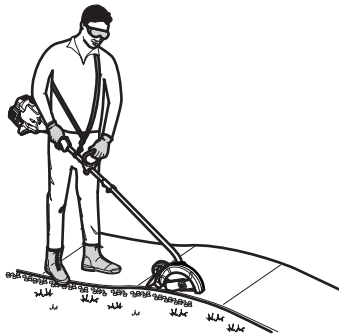

Fig. 4
- Stand in the operating position (Fig. 4). Stand up straight. Do not bend over.